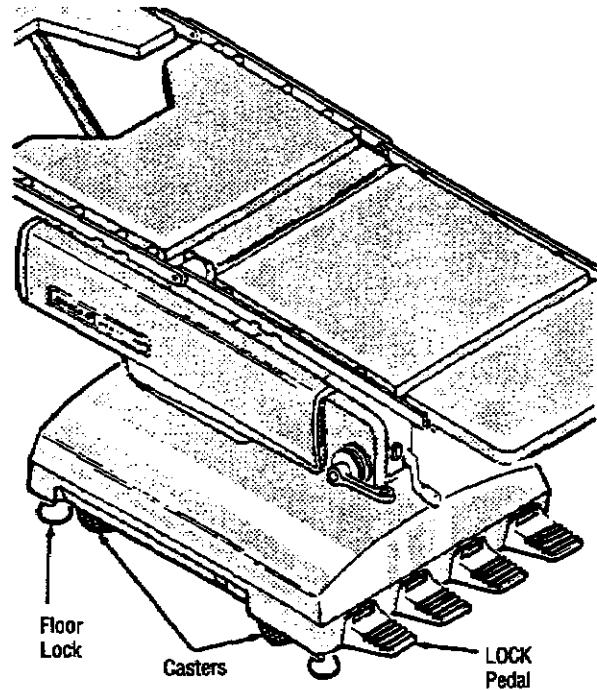

Figure 3-2. Floor Locks Lowered
- b. Place LOCK pedal in its down (locked) position. Unscrew floor locks until they are snug against the floor (see Figure 3-2).